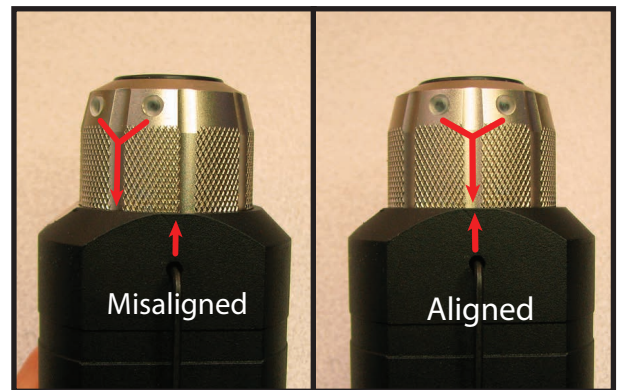

Figure 6: Aligning the Cap
- 6.4) Verify that the cap is locked in place by the internal latch and can't be unscrewed. The cap may have to be rotated back and forth slightly about the aligned position. See Figure 6 for proper alignment.